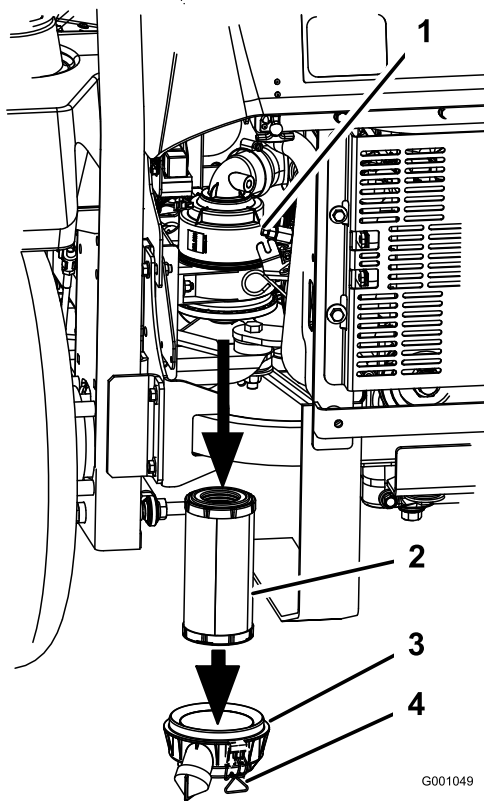

Figure 35
3. Release the latches on the air cleaner and pull the air cleaner cover off of the air cleaner body (Figure 35).
5. Gently slide the filter out of the air cleaner body (Figure 35). Avoid knocking the filter into the side of the body.